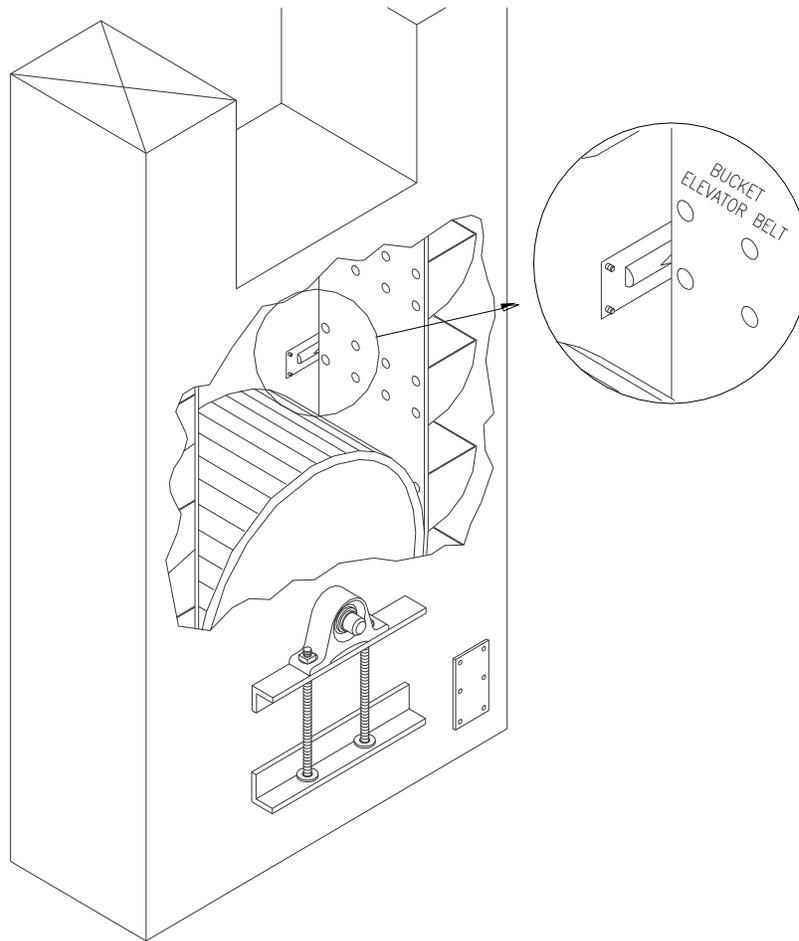
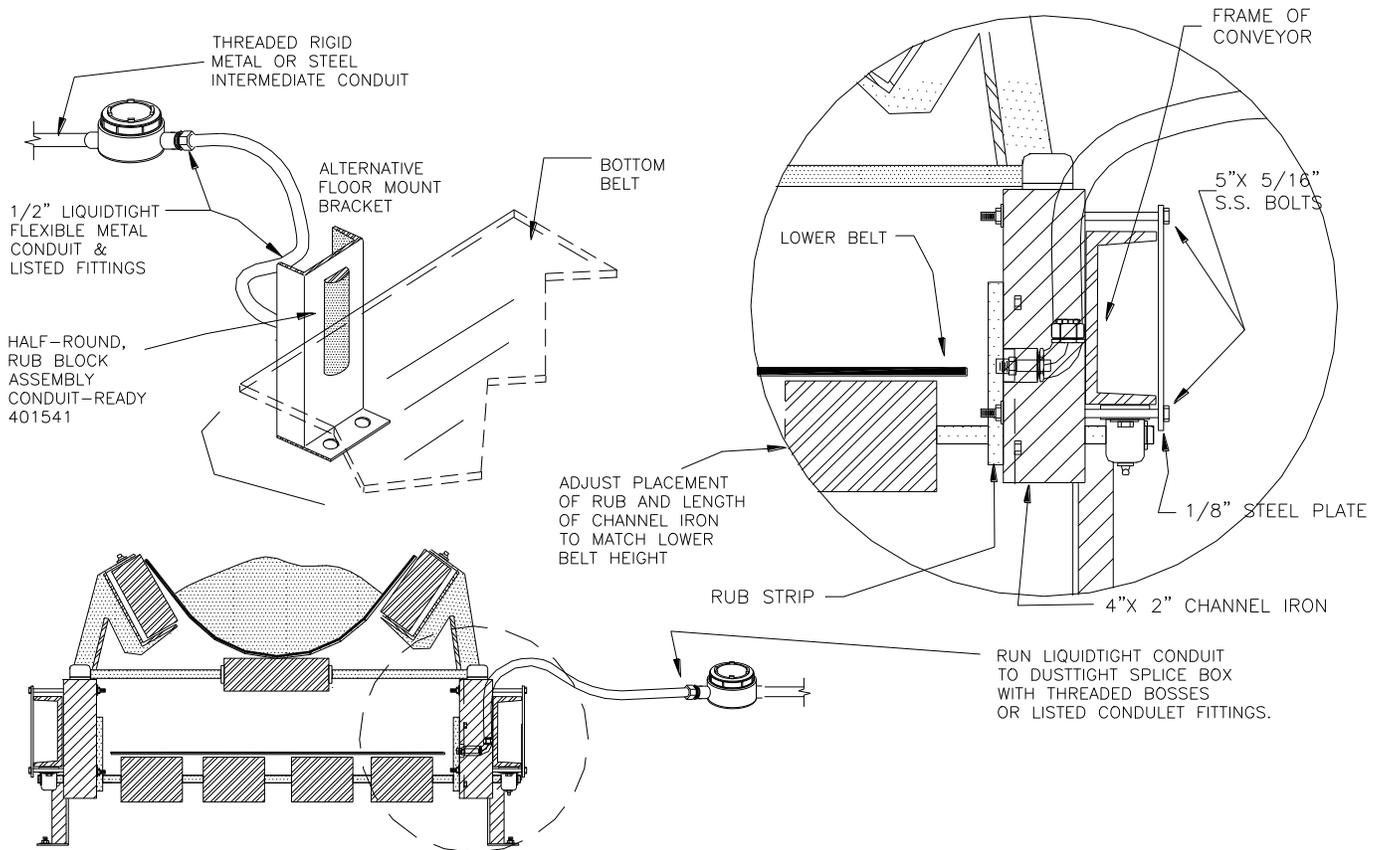

Figure 15. Rub Sensor
Figure 20. Rub Mounted on an Open Frame Conveyor
4.6.1.2.5. Next take the appropriate template provided, see Figure 20. and place it against the leg casing in alignment with the vertical and horizontal alignment marks that you have made previously in steps one and two. Dashed lines have been provided on the template for this purpose. The template is the exact size of the rub mounting plate to aid you in locating the rub away from obstructions. Minor adjustments can be made so long as the belt will still contact the brass portion of the rub fully should it track out of alignment. The location of the brass rub is indicated by the 5-1/8" x 1-1/4" cutout on the 3" x 8" template. You can use these as guides if minor adjustments are necessary. In some cases, you may have to relocate the rub altogether in order to find a flush mounting location that still lines up with the belt. (See Figure 15). The template is punched so that you can use it to mark out the mounting holes for the rub as well.
4.6.1.3.1. In some cases, it is desirable to mount rub blocks on open frame conveyors. Some suggestions on possible mounting configurations can be found in figure 20.